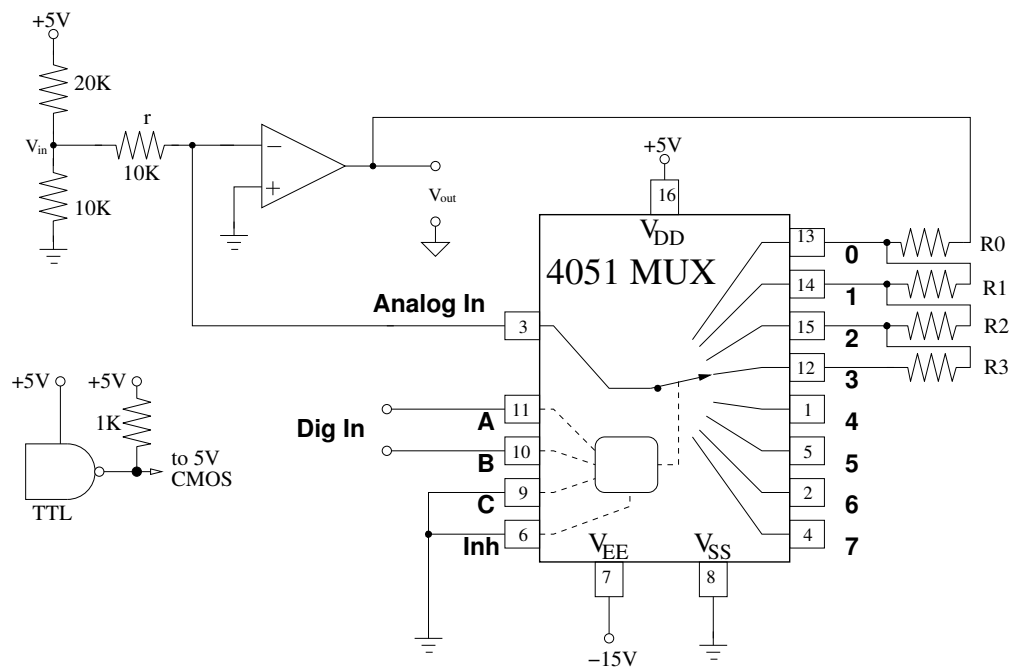

Figure 7: The 4051 analog multiplexer: “rotary control” type schematic of 4051 used to implement an inverting amplifier with digital gain control.
c) **Digital Gain Control:** Rewire the 411 opamp used for the unity gain buffer and build the inverting amplifier with digital gain control shown in Fig. 7. (Note that  $V_{EE} = -15$ V). Pick the resistances R0-R3 such that gains of one, two, three, and four are achieved. Test your circuit and discuss the result. (Does it work as expected? Are there potential issues with this circuit?)
You may test the circuit, for example, by connecting the MUX's digital-inputs A and B to the input line (CLK) and output line (Q) of the divide-by-two circuit you constructed previously and by observing the amplifier output on the oscilloscope. Make sure you drive the divide-by-two circuit using square-waves with *amplitudes in between 0 and 5 V*. It is recommended that you use the sync-out signal of the signal generator and frequencies of around 100 Hz. Since a TTL gate (divide-by-two circuit) is used to drive a CMOS gate (4051 MUX), difficulties may arise because the 3.5 V TTL output-high is barely high enough for CMOS logic. Therefore it is recommended to use a pull up resistor as shown in Fig. 7 before connecting to the A and B inputs of the CMOS 4051 MUX.